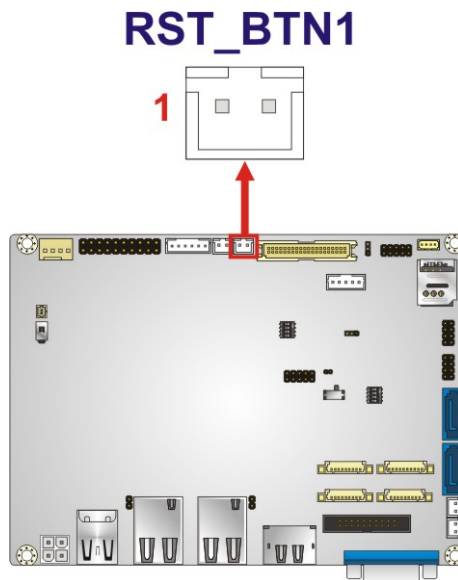

Figure 3-16: Reset Button Connector Location
- CN Location:** See Figure 3-16